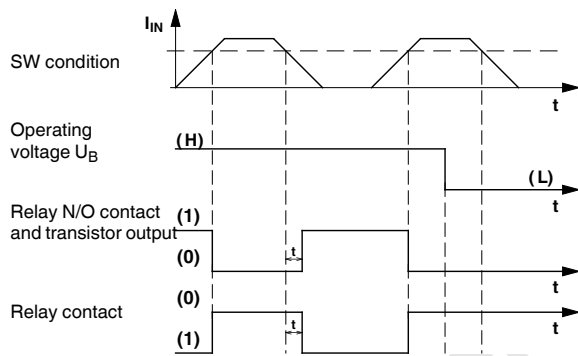

Figure 7 Function diagram: Operating current-controlled when below threshold value
- For Figure 7: Turn the threshold value potentiometer until the yellow "SW" LED goes out.